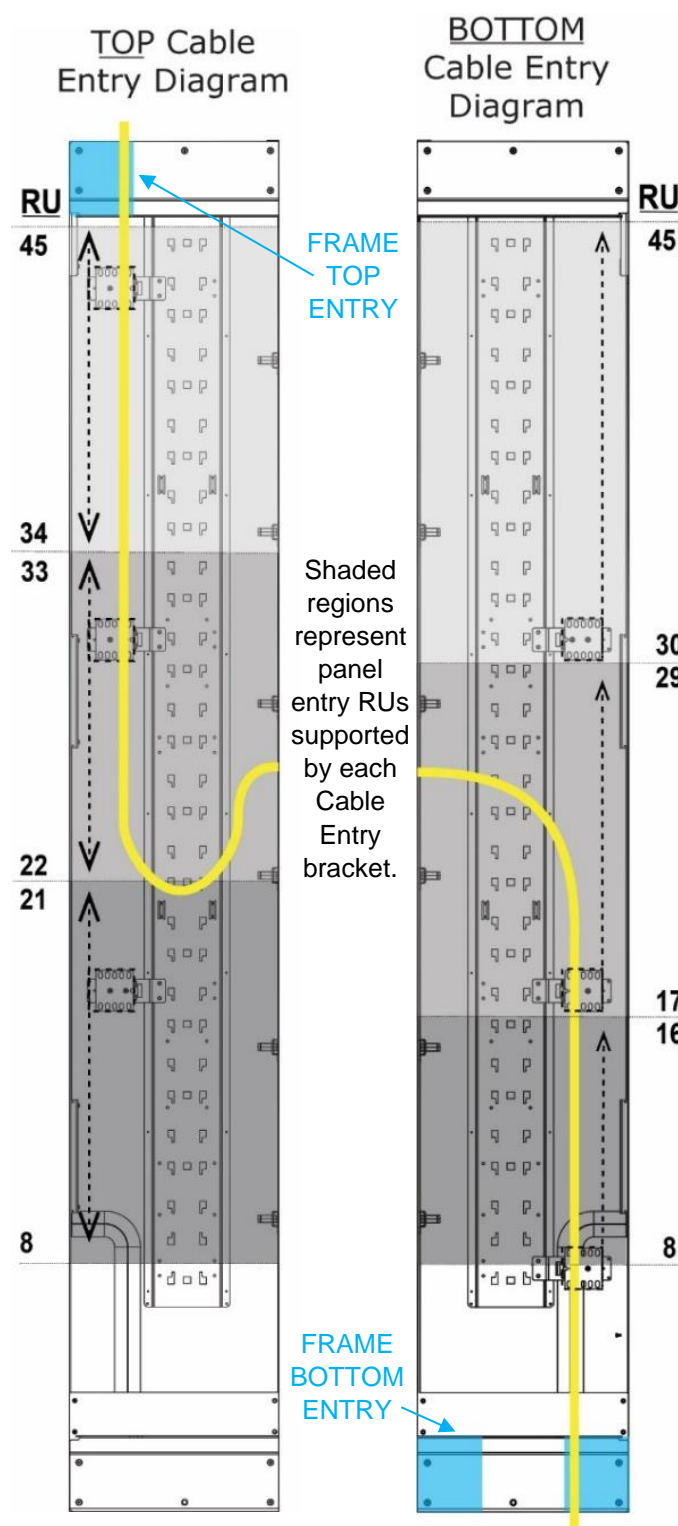

Figure 24. Cable Entry Diagrams
- ENTRY CABLES – Recommended cable attachment bracket for each entry cable depends on the entry opening used (top or bottom) and the entry RU of the frame. See Figure 24 for guidance.